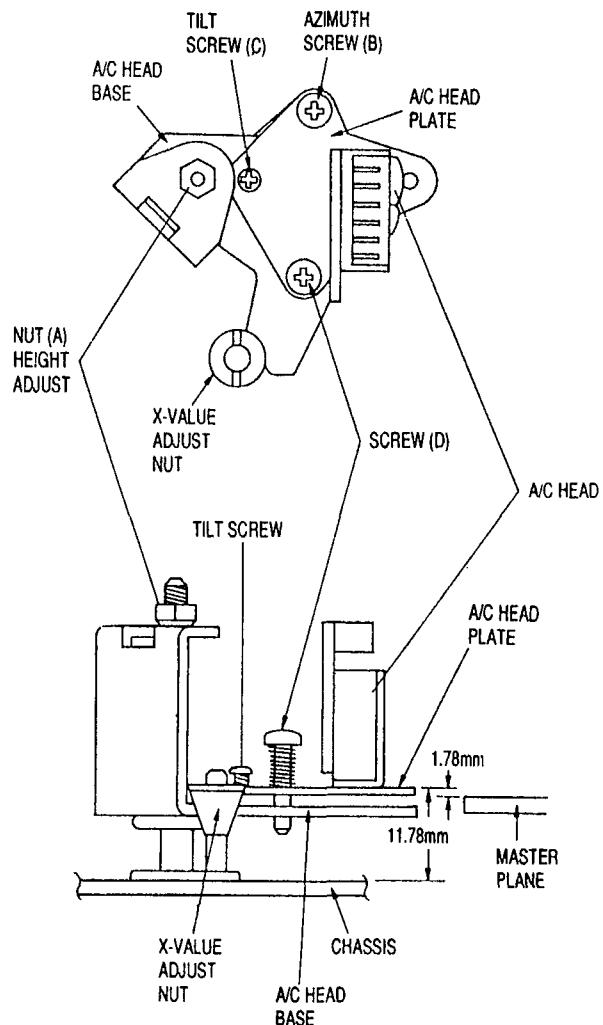

Fig. 3-105
(2) X-Value Adjustment (Figs. 3-105, 3-106)